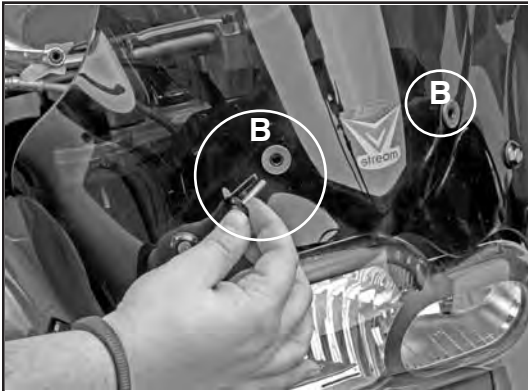

Figure 16
11. Install windscreen at the inner mount (B) locations using the screw assembly as shown in figure 16 and diagram d. **Do not fully tighten at this time.** (5mm Hex Wrench, Closed Box Wrench) Figure 16, Diagram d